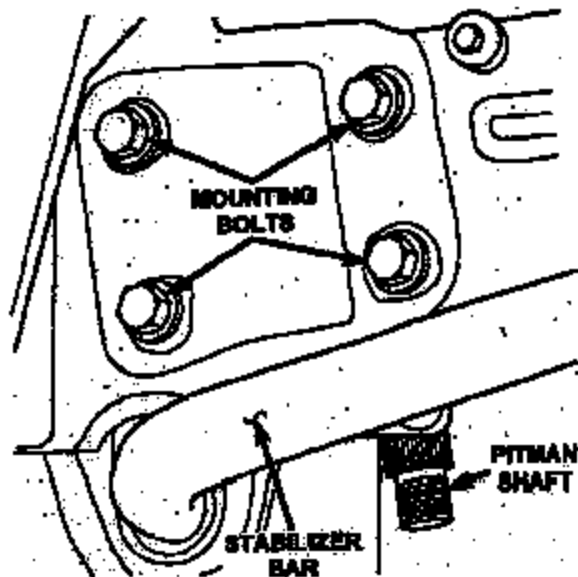

Figure 3
16. Remove the four steering gear mounting bolts (Figure 3).